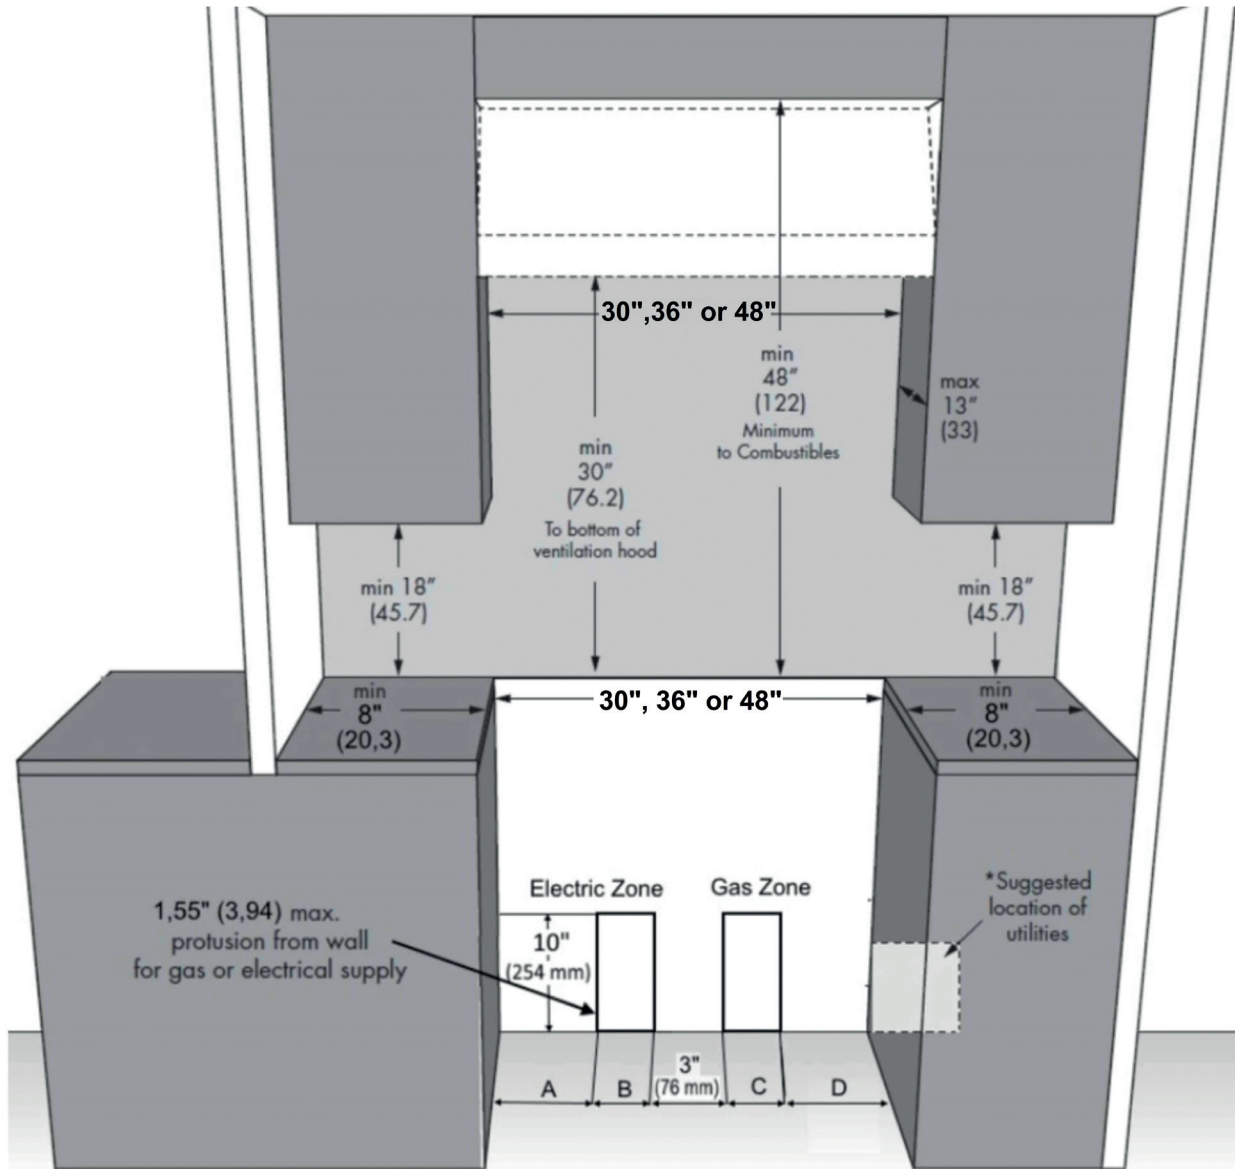

Figure 1
IMPORTANT NOTE: When installing against a combustible surface, a minimum riser is required for a the range, follow all minimum clearances to combustible surfaces shown in the illustration on the previous pages. The range is a free standing unit. If the unit is to be placed adjacent to cabinets, the clearances shown in Figure 1, are required. The same clearances apply to island installations, except for the overhead cabinets, which must have a space wide enough to accept the flared island hood.
- The gas and electrical supply should be within the zones shown in Figure 1 (see page 9).